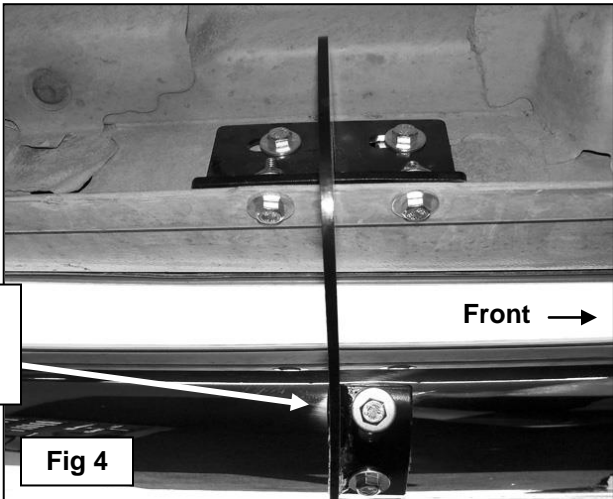

Fig 4
- Carefully position the Sidebar onto the Mounting Brackets and attach it using the included (4) 8mm x 25mm Hex Bolts, (4) 8mm Lock Washers and (4) 8mm STD Flat Washers, **(Figure 4)**. Do not tighten hardware at this time.